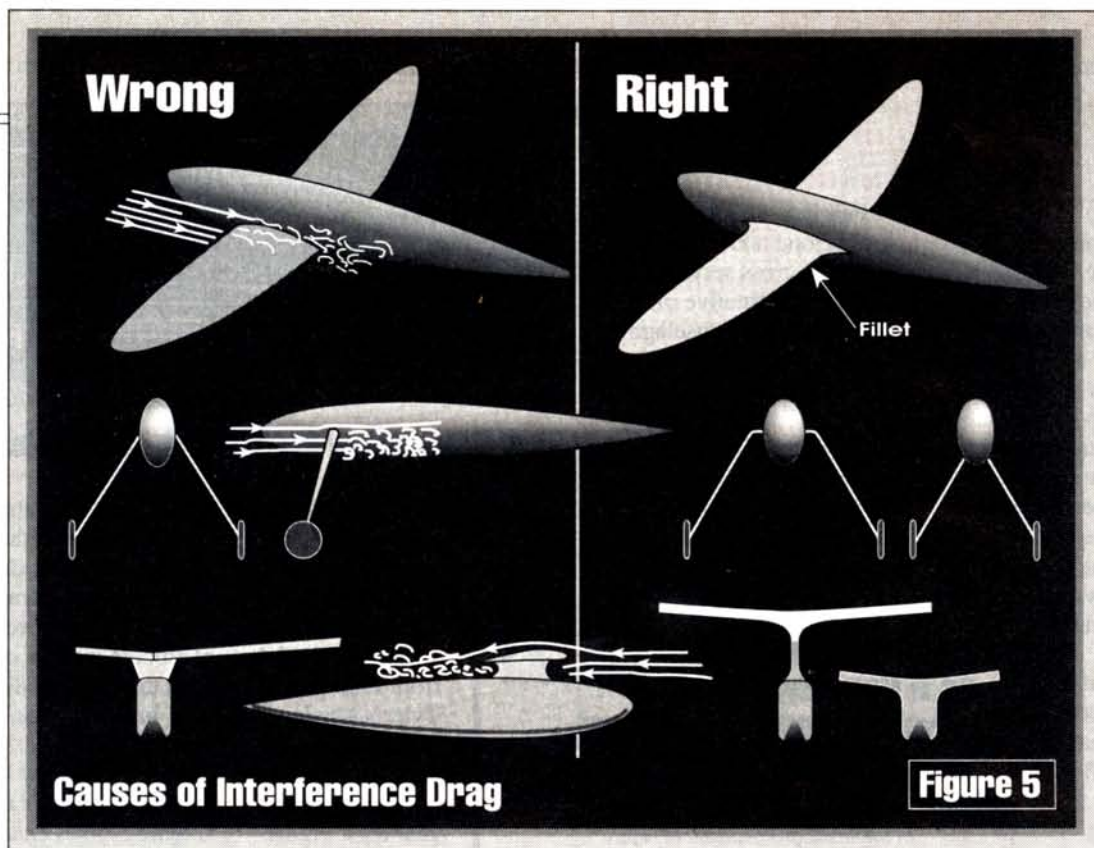

Figure 5
• **Interference drag.** This is caused by the breakdown of smooth airflow owing to such things as landing-gear legs, bracing struts, dowels, open cockpits, etc., that disturb the airflow over the aircraft aft of the cause. (Figure 5 gives examples.)